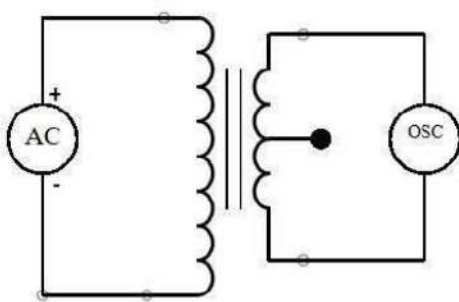

Figure 2
1. Complete the circuit diagram, as shown in Figure 2.